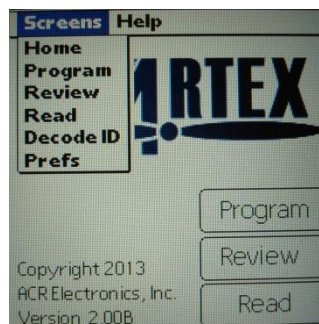

Figure 8: Screens Drop-Down Menu
1. Tap the upper left-hand corner of the Artex main screen (Artex ELT Programmer header) to get the Screens drop-down menu (Figure 8).